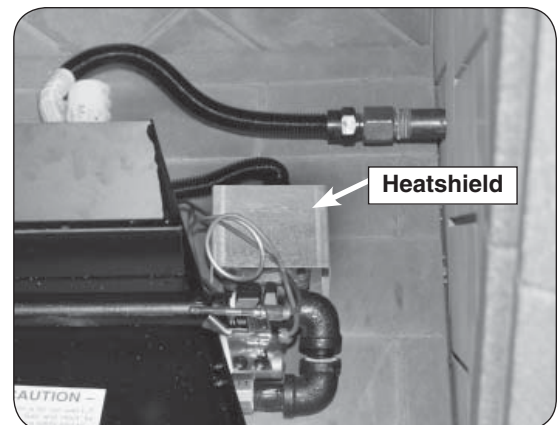

Fig. 11-2 Place heatshield
5. Place heatshield firmly over the regulator(see Fig. 11-2) .